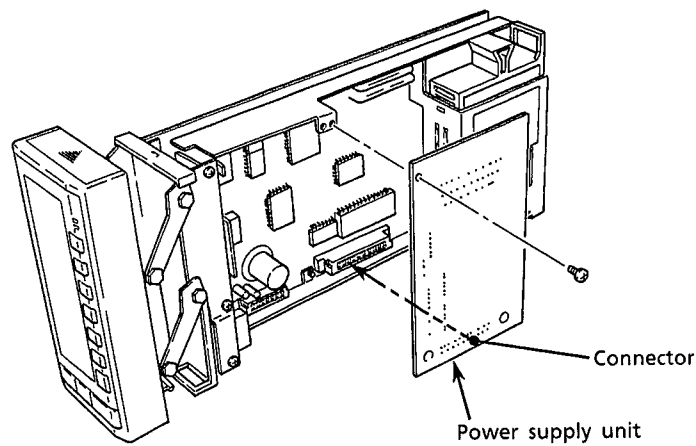

Figure 11.9 Replacing the Power Supply Unit
- ① Swing up the front panel, and then remove the internal unit.
- ② Remove the screw with a screwdriver.
- ③ Hold the left and right parts of the connector part, and pull out the card to the front (see Figure 11.9).
- ① Mount a new power supply unit by performing the reverse of the steps for “How to Detach” above.